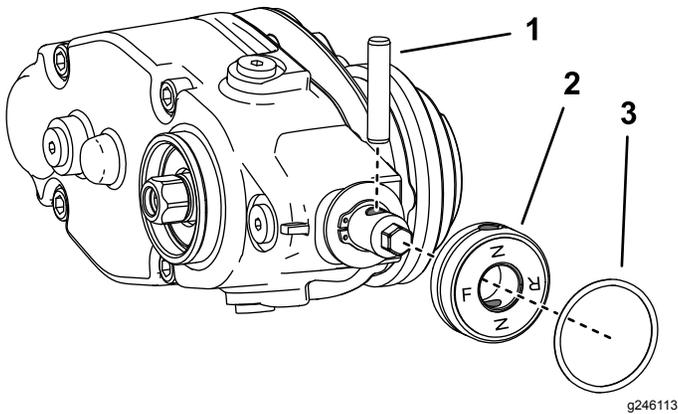

Figure 14
7. If you are installing the groomer at the left side of the machine, perform the following (Figure 14):